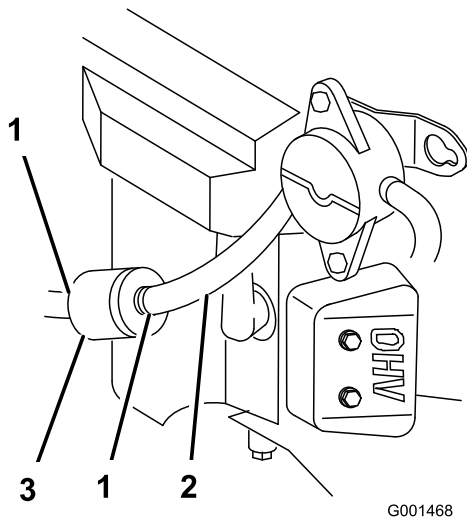

Figure 38
4. Squeeze the ends of the hose clamps together and slide them away from the filter (Figure 38).